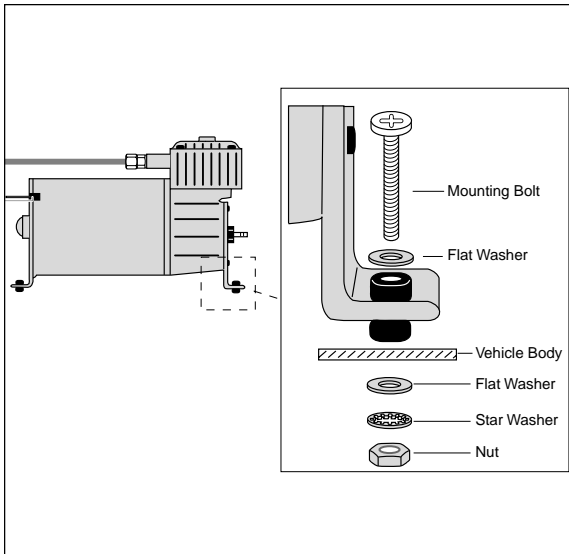

Figure 2
4. Use the supplied screws and nuts to mount the compressor (Figure 2).
6. Install the air line into the air line fitting previously installed on the compressor (Figures 2 & 6).